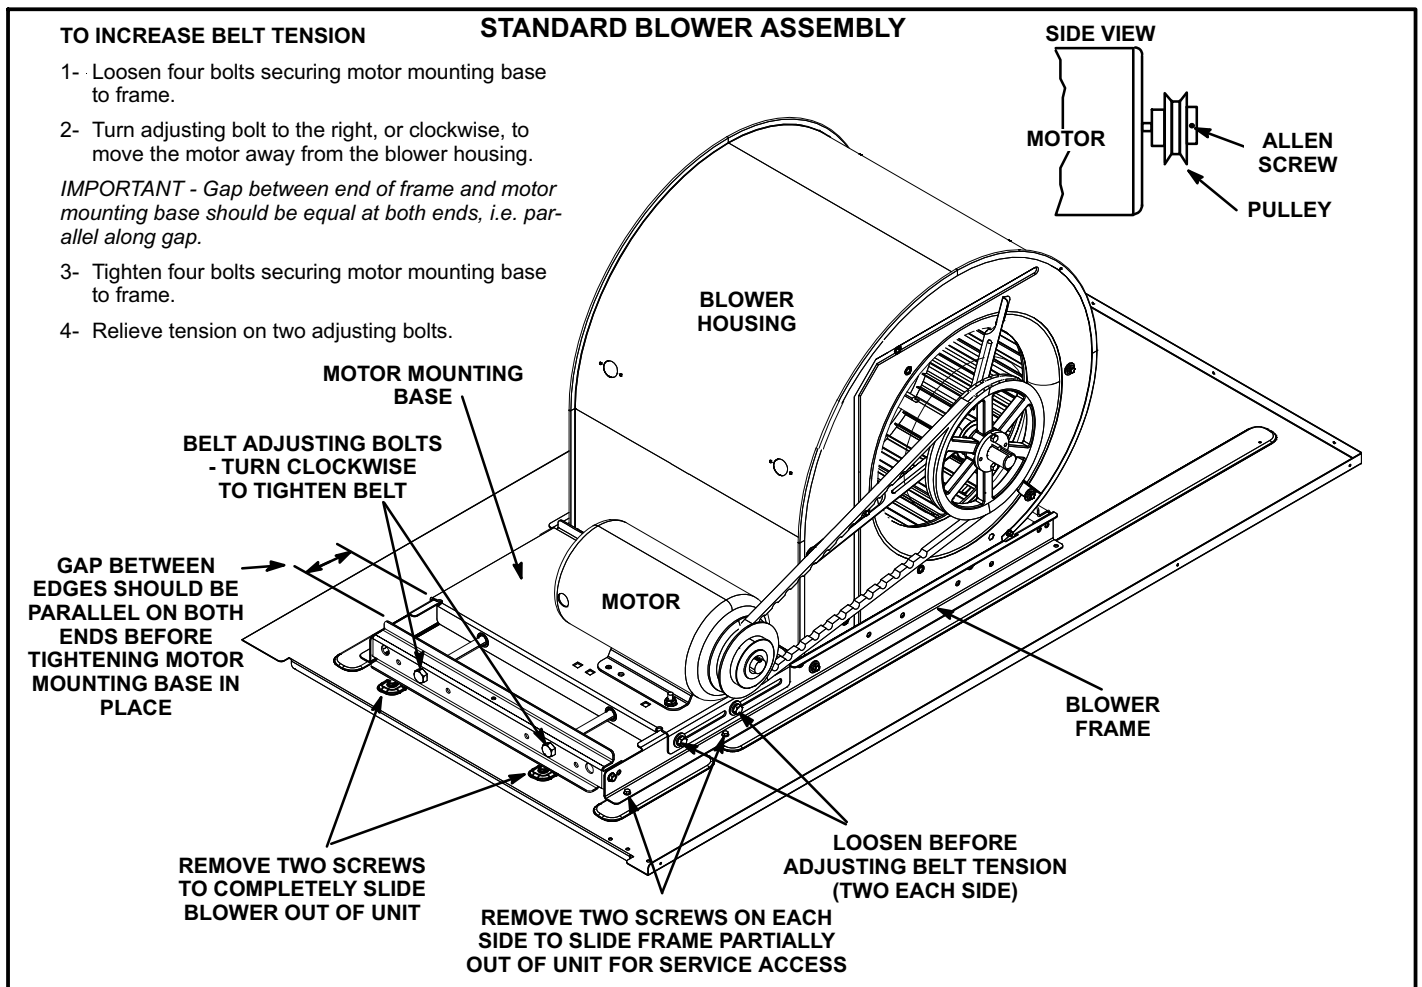

FIGURE 10
The blower assembly is secured to a sliding frame which allows the blower motor to be pulled out of the unit. See figure 10.
- 4- The blower RPM can be adjusted at the motor pulley. Loosen Allen screw and turn adjustable pulley clockwise to increase CFM. Turn counterclockwise to decrease CFM. See figure 10. Do not exceed minimum and maximum number of pulley turns as shown in table 1.
- 1- Loosen four bolts securing motor base to mounting frame. See figure 10.